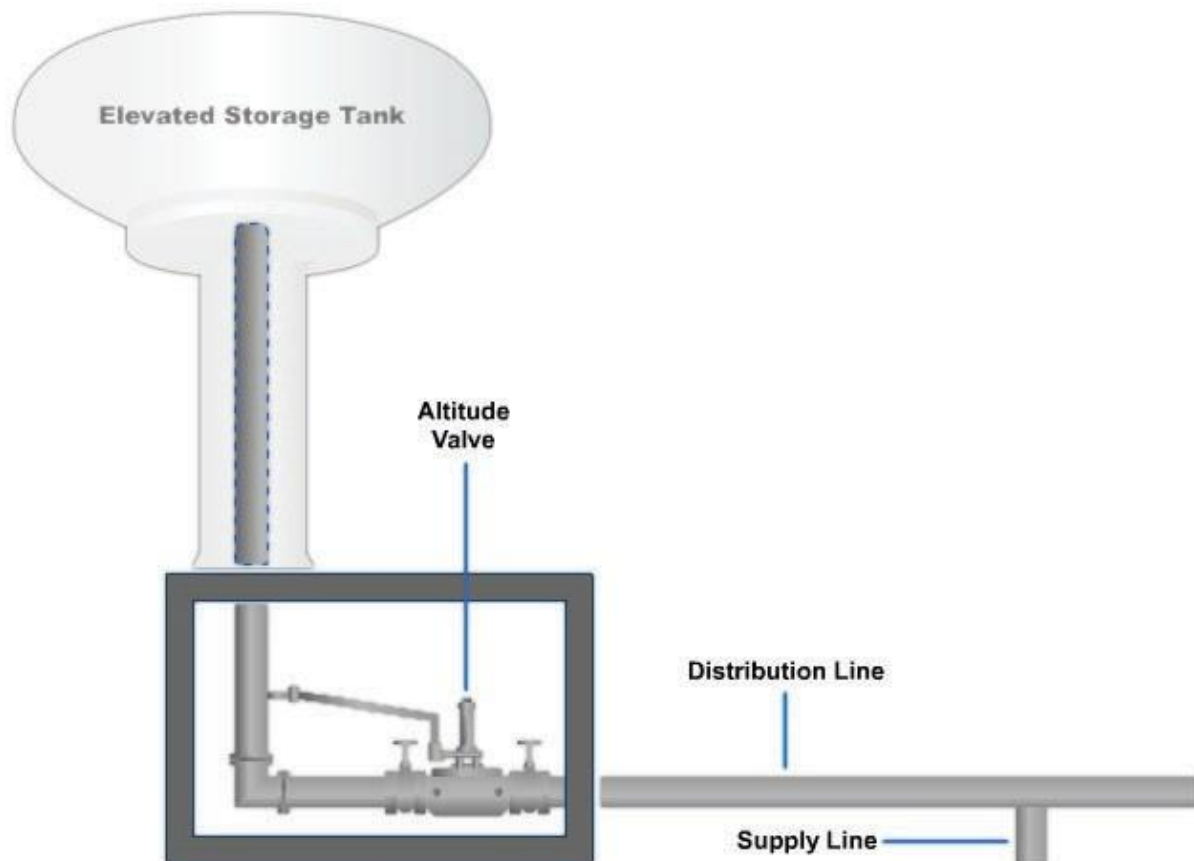

Figure 5-25 – Altitude valve with elevated storage tank.
Altitude valves are used primarily on supply lines to elevated storage tanks. These valves are designed to (1) regulate the water level in the water storage tanks to prevent them from overflowing or running dry, and (2) maintain a constant water level as long as water pressure in the distribution system is adequate. *Figure 5-25* illustrates the altitude valve in relation to an elevated storage tank.